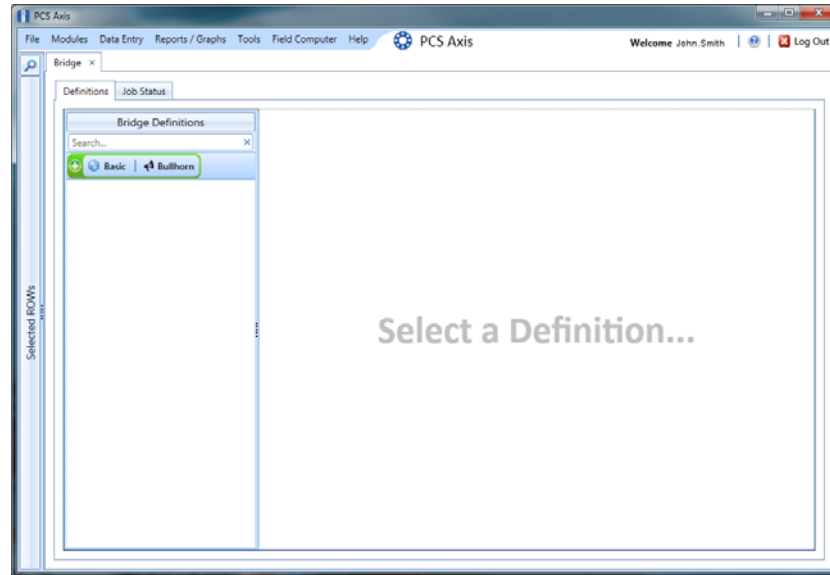

Figure 9-28. Bridge
- 2 Click **Tools** > **Bridge** to open the *Bridge* window (Figure 9-28, page 414)